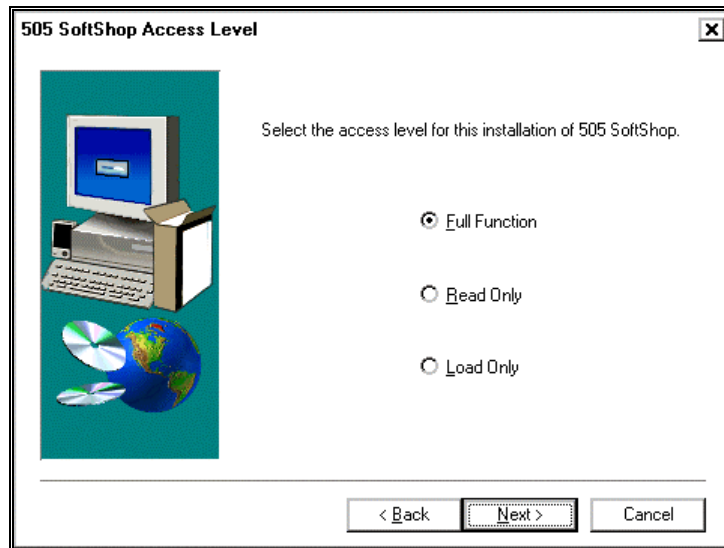

Figure 2.0
4. After clicking Next, a 505 SoftShop Access Level Read/Load Only Install box appears. From the install window entitled 505 SoftShop Access Level, you can decide if you want Full-function, Read-only, or Load-only install (Figure 2.0).